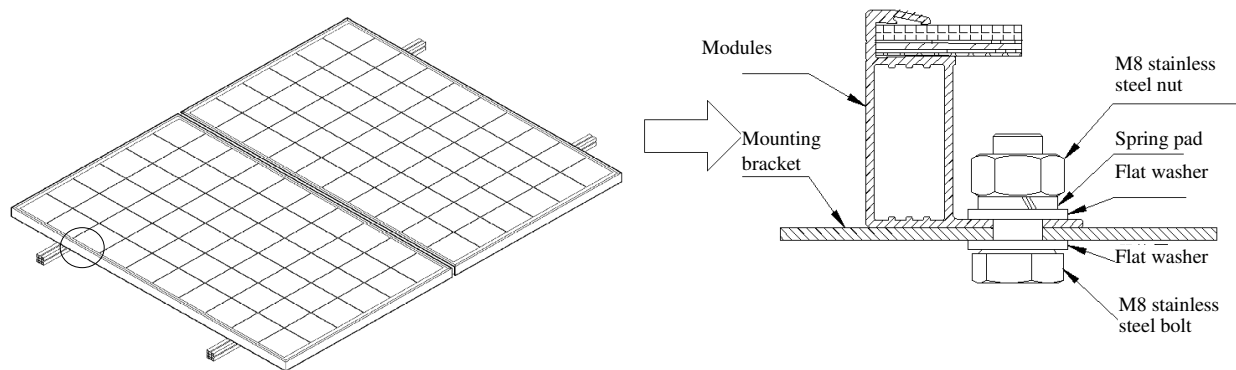

Figure 3 Installation of mounting hole
- Installation of mounting hole: Use corrosion-resistant M8 bolts and fix them to the mounting bracket through the mounting holes on the module frame, as shown in Figure 3;